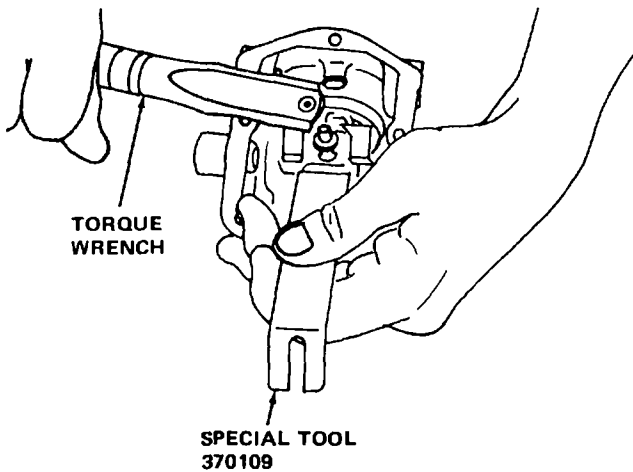

Figure 11-24. Torquing Governor Locknut
(d) Tighten nut (57) down onto spring seat (56) and torque to 70 pounds-inches (7.91 Newton-meters). Refer to figure 11-24.
(h) When pilot valve plunger is centered, tighten nut (57, figure 11-5) as shown in figure 11-24 by torquing it to 70 pound-inches (7.91 Newton-meters).